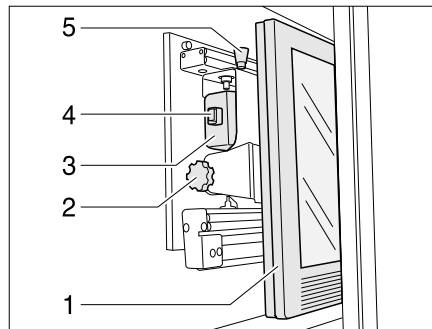

Fig. 136 TV cabinet
- Press the release knob (Fig. 136,5) and pull the holder for the flat screen forward as far as possible by the handle (Fig. 136,4).
- Pull the release knob (Fig. 136,1) and swivel flat screen (Fig. 136,2) to the desired position.
- Loosen knurled screw (Fig. 136,3).